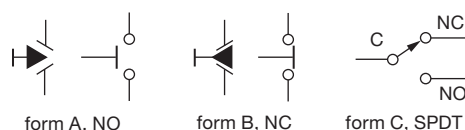

Figure 1.120. Momentary-contact (pushbutton) switches.
Pushbutton switches are useful for momentary-contact applications; they are drawn schematically as shown in Figure 1.120 (NO and NC mean normally open and normally closed). For SPDT momentary-contact switches, the terminals must be labeled NO and NC, whereas for SPST types the symbol is self-explanatory. Momentary-contact switches are always “break before make.” In the electrical (as opposed to electronic) industry, the terms form A, form B, and form C are used to mean SPST (NO), SPST (NC), and SPDT, respectively.